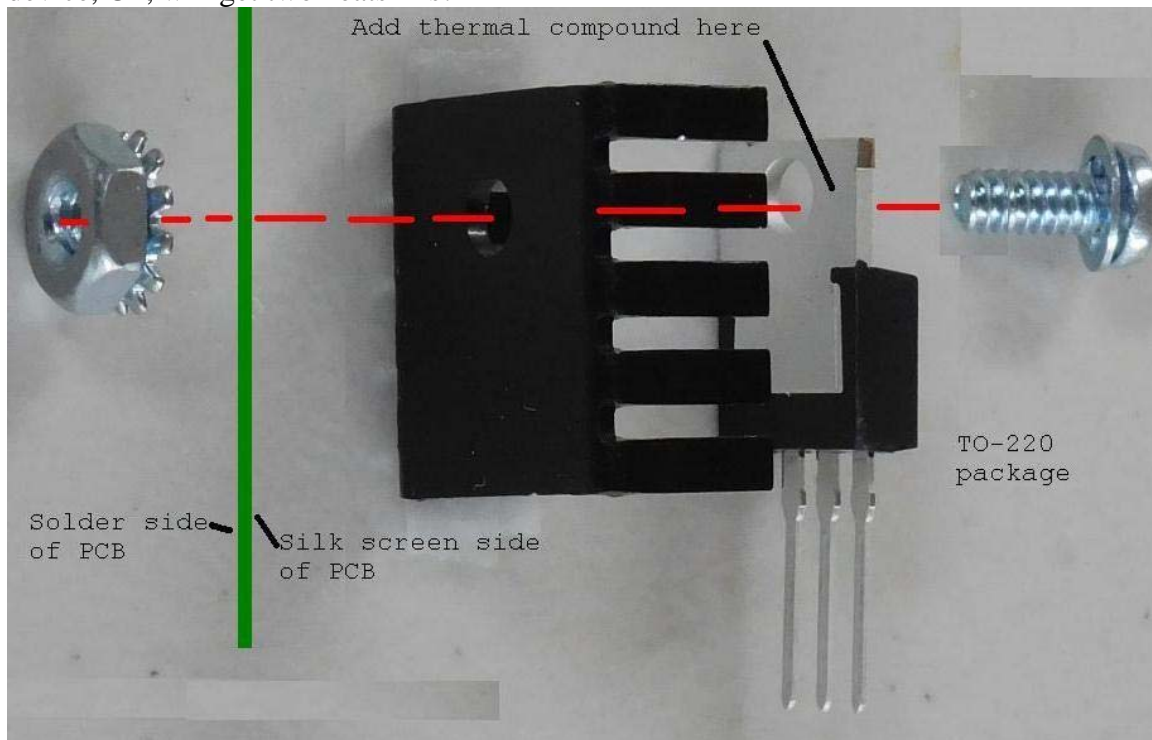

Figure 4-Regulator and Heat Sink Assembly Detail
There are three regulators and one power transistor in TO-220 packages. Each TO-220 device fastens to the PCB (printed circuit board) with a heat-sink, heat-sink compound, a 6-32x3/8" screw and 6-32 keps nut (a nut with a built-in lock washer). Figure 4 shows the general assembly method. Note that there are two different size heat sinks, and one device, U2, will get two heatsinks!
- Fasten the regulator in place with the hardware as shown in Figure 4 and Figure 6.